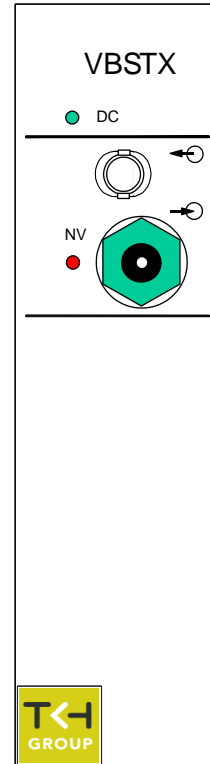

Figure 1.
Figure 1 shows the signal connection facilities and indicators on the front panel of a VBS 2010 TX single-channel transmitter (see also table 1).
1. Plug the module into a power cabinet and connect optical fiber equipment and video equipment to the module: optical cord to the output and video lead to the input (figure 1 and table 1).